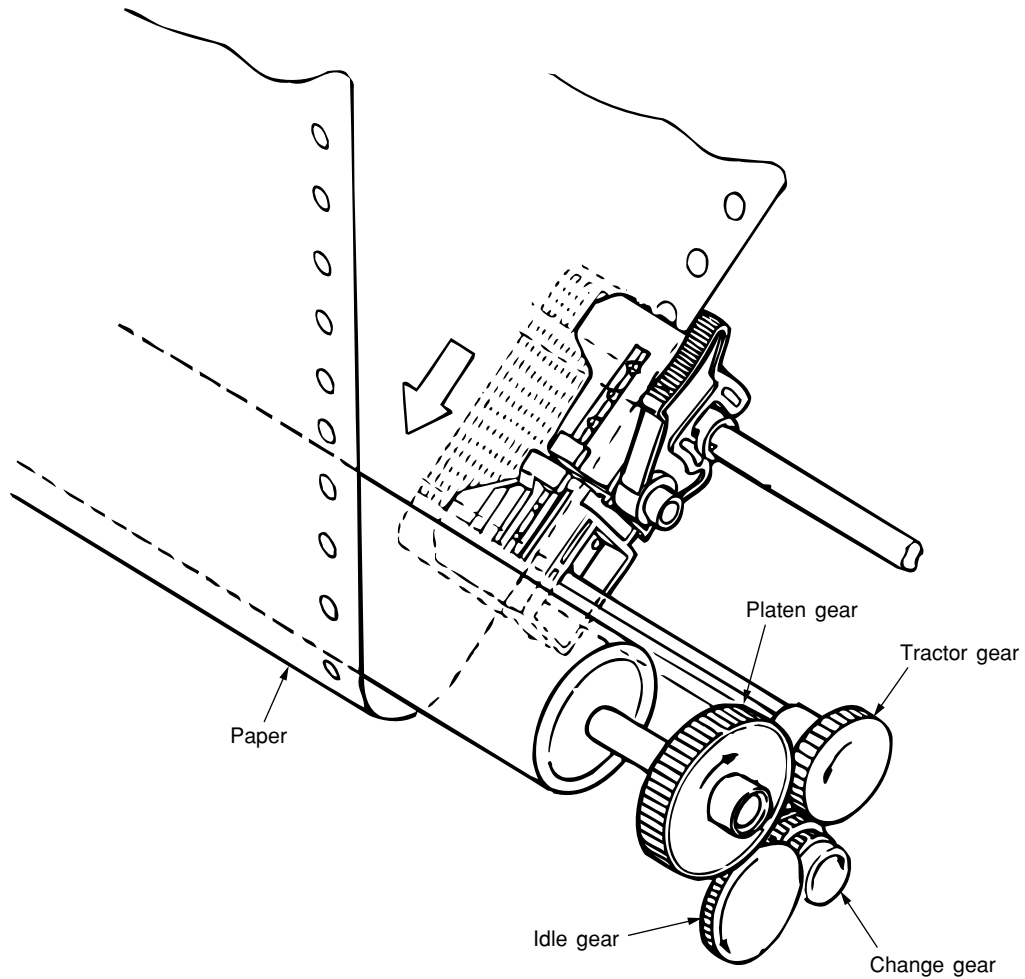

Figure 2-10
(3) Continuous paper feed operation (Rear) (See Figure 2-10.)